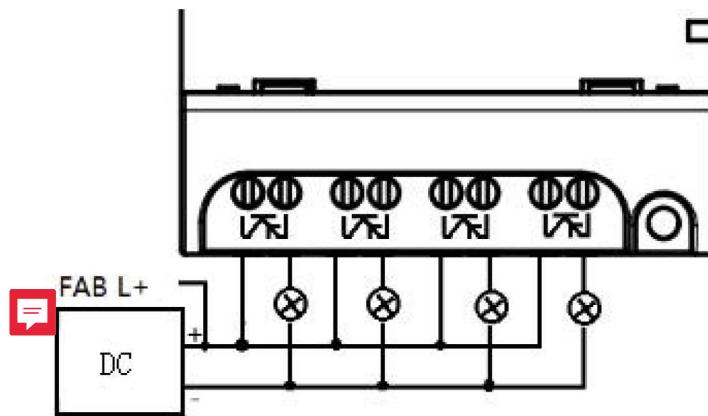

Fig 2.11 Transistor Output (GD type)
2) Type GD connection is shown in Fig 2.11.